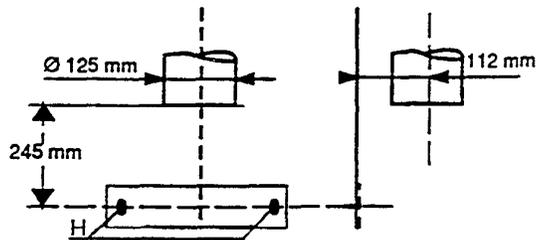

Fig. 25
### Positioning the boiler (see fig. 25)
- Using bracket as template mark 2 fixing points (H).
- Drill 2 fixing holes (H) and plug.
- Fix bracket to wall using 6 mm x 50 mm wood screws provided (see fig. 25).